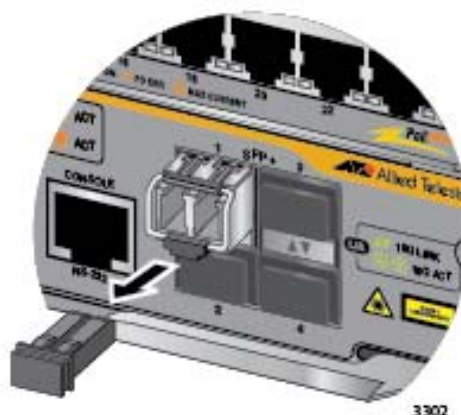

Figure 112. Removing the Dust Cover from an SFP+ Transceiver in the AT-SBx81CFC960 Controller Fabric Card
4. Remove the protective cover from the SFP+ transceiver, as shown in Figure 112.